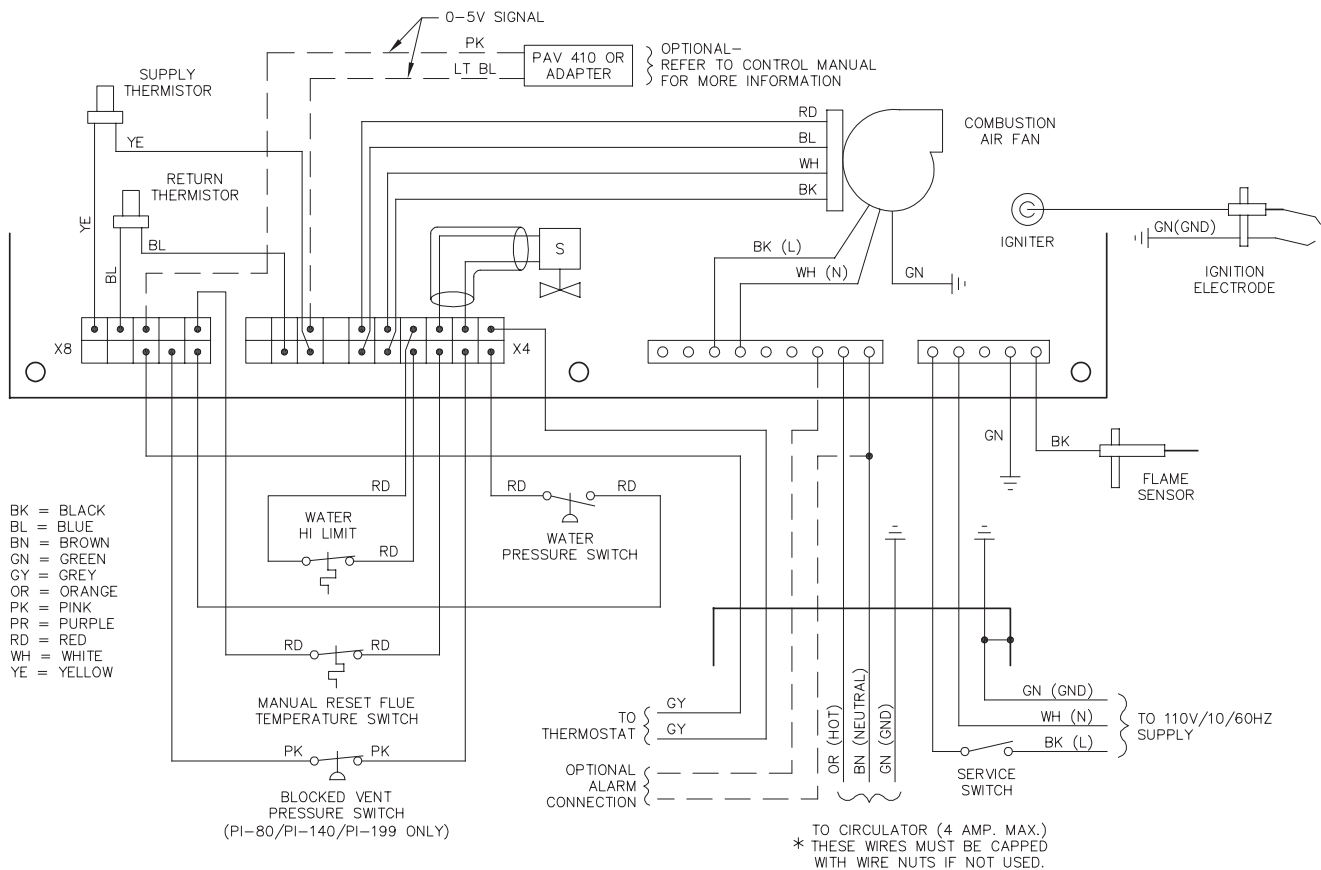

Figure 1.3: Component Wiring Diagram
4. Connect wires to the correct components. The wires are labeled to identify the component to which they are to be connected. See Figure 1.3 for a component wiring diagram.